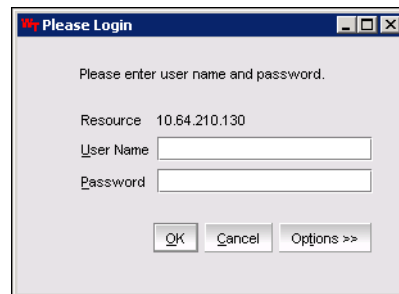

Figure 8-8 Login dialog box
3. In the login dialog box, as shown in Figure 8-8, type your user name.